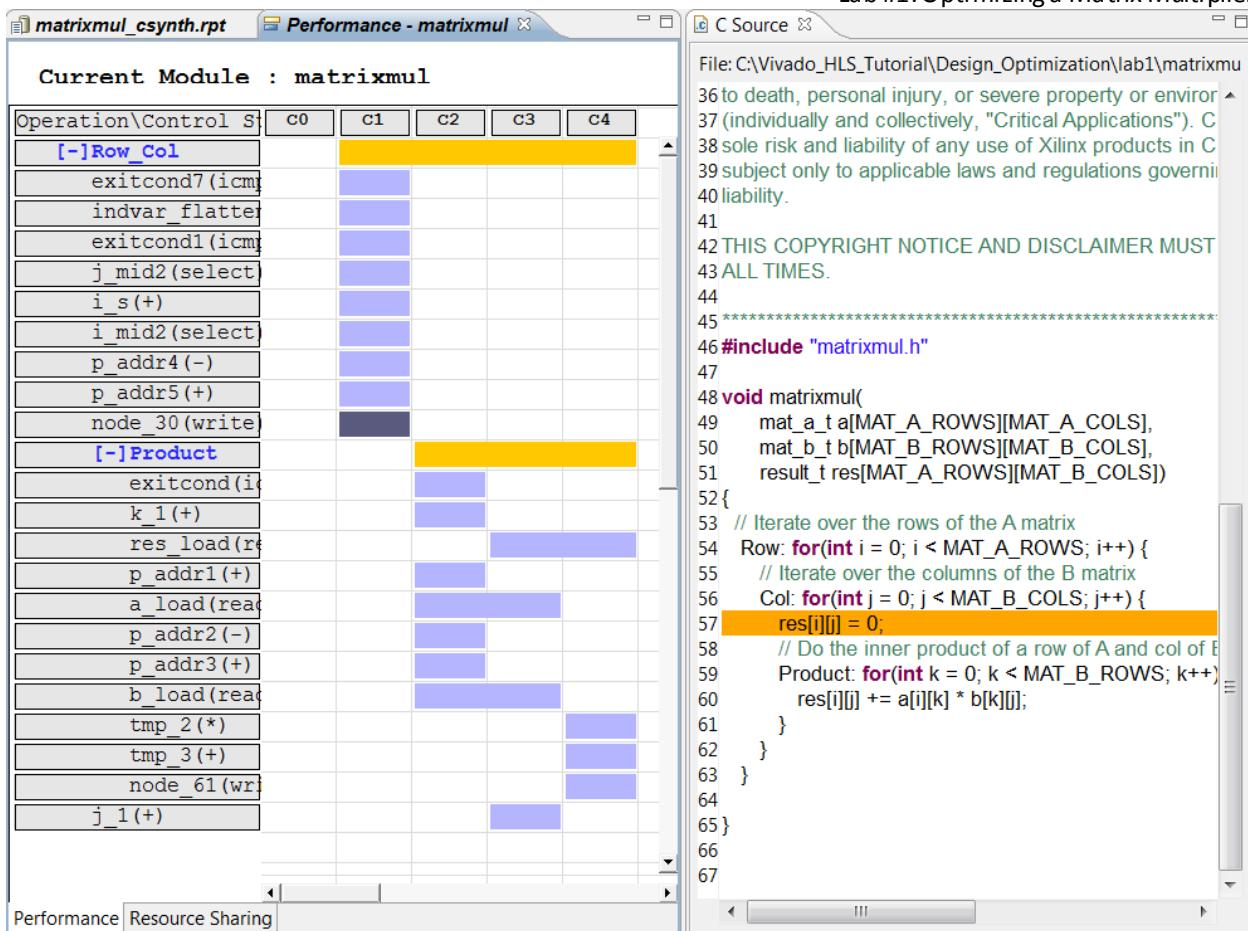

Figure 149 Matrixmul Initial Performance View
9. Right-click with the mouse and select Goto Source to see the view in Figure 149.
From Figure 149 you can see line 60 is a read from array res (due to the $+=$ operator) and a write to array res . An array is mapped into a BRAM by default and the details in the Performance View can show why this conflict occurred.